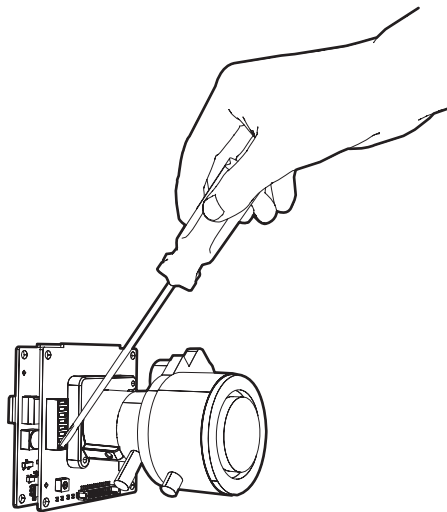

Figure 3. DIP Switches
2. Set the switches for your installation using a small screwdriver, refer to Figure 3.